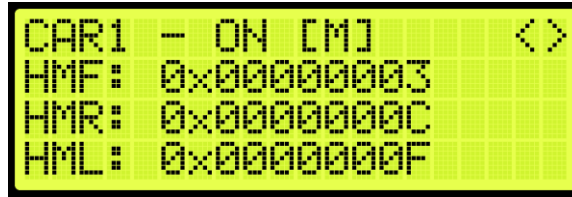

Figure 264: Hall Mask Status
3. From the Hall Mask Status (See Figure 264), press the right button.